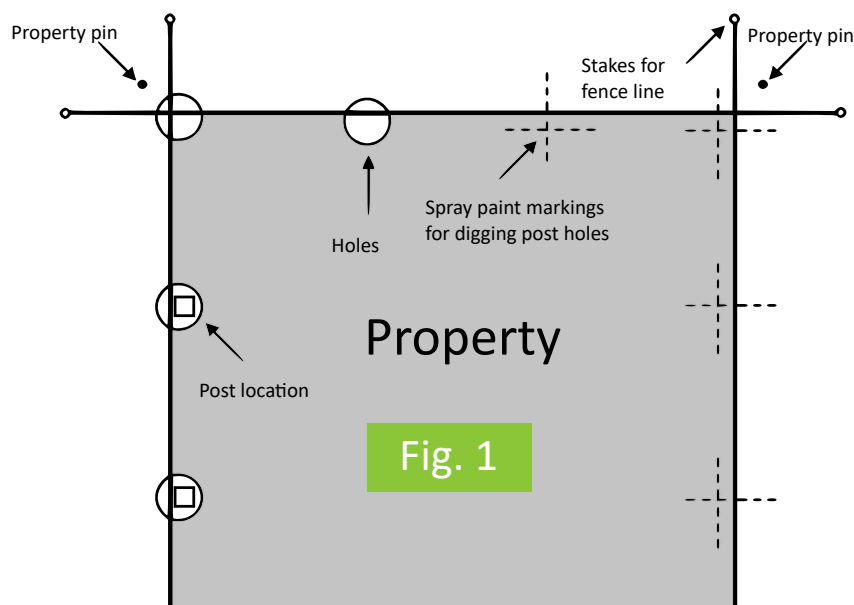

Fig. 1
2. Mark location of posts. Spray paint a line perpendicular to the string every 97" on center. Ideal spacing *between* posts is 92". If sections are shorter, horizontal rails and pickets will need to be cut for length. Spray additional lines (making a cross) 2" in from the string to mark the center of the hole (see Fig. 1).